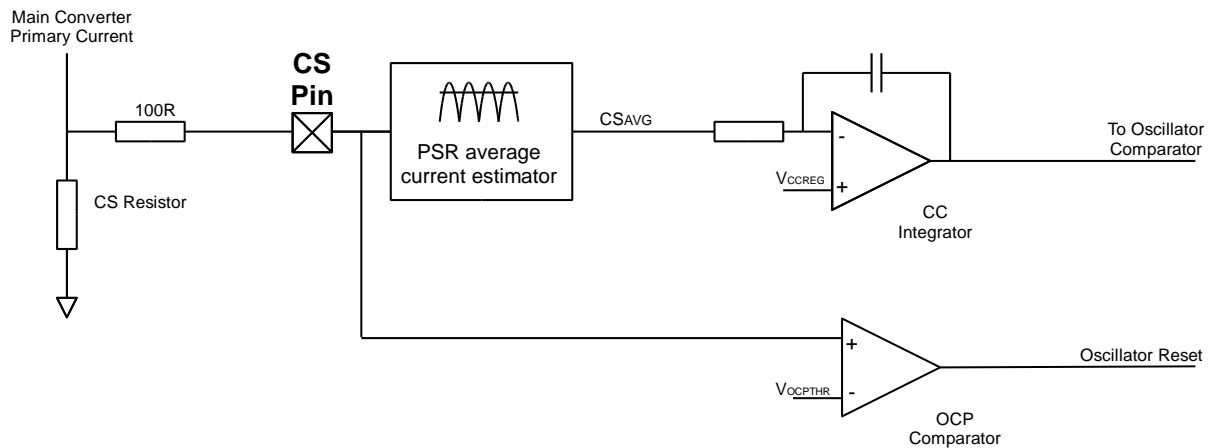

Figure 7: RED2402 Current protection and control circuits
Figure 7 shows the two current control methods used in the converter:
Shown in figure 7 the signal from the CS pin is divided into two different paths. The bottom path provides peak instantaneous over-current protection (OCP) while the PSR Average Current estimation block provides the current regulation (CC) information. The voltage on the CS pin is an AC signal biased around GND. Inside the PSR block this signal is processed to provide a voltage proportional to the average converter output current.
The CC regulation circuit is shown in Figure 7. CC operation is defined by an internally compensated control loop. This provides a system response time of approximately 300us in a typical application. The average current regulation point, V_{CCREG} is pre-set to 150mV, referred to the CS pin.